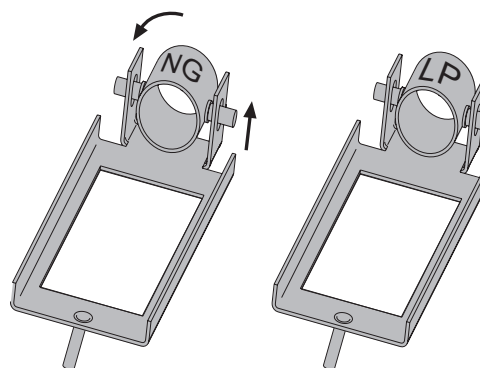

Figure 16. Air Shutter orientation must be changed for fuel type.
6. Change the Air Shutter position: Lift the shutter tube up in its hinge pin slots and turn the tube over, so that the appropriate fuel type indicator (LP or NG) is oriented facing you. See fig. 16. Push the shutter all the way back over the burner orifice.
THIS APPLIANCE IS SHIPPED FROM THE FACTORY EQUIPPED FOR USE WITH NATURAL GAS. IF CONVERTING TO PROPANE, IT WILL BE NECESSARY TO ADJUST THE AIR SHUTTER ON THE BURNER TUBE TO ACHIEVE THE PROPER GAS TO AIR MIX. SEE FIG. 16.